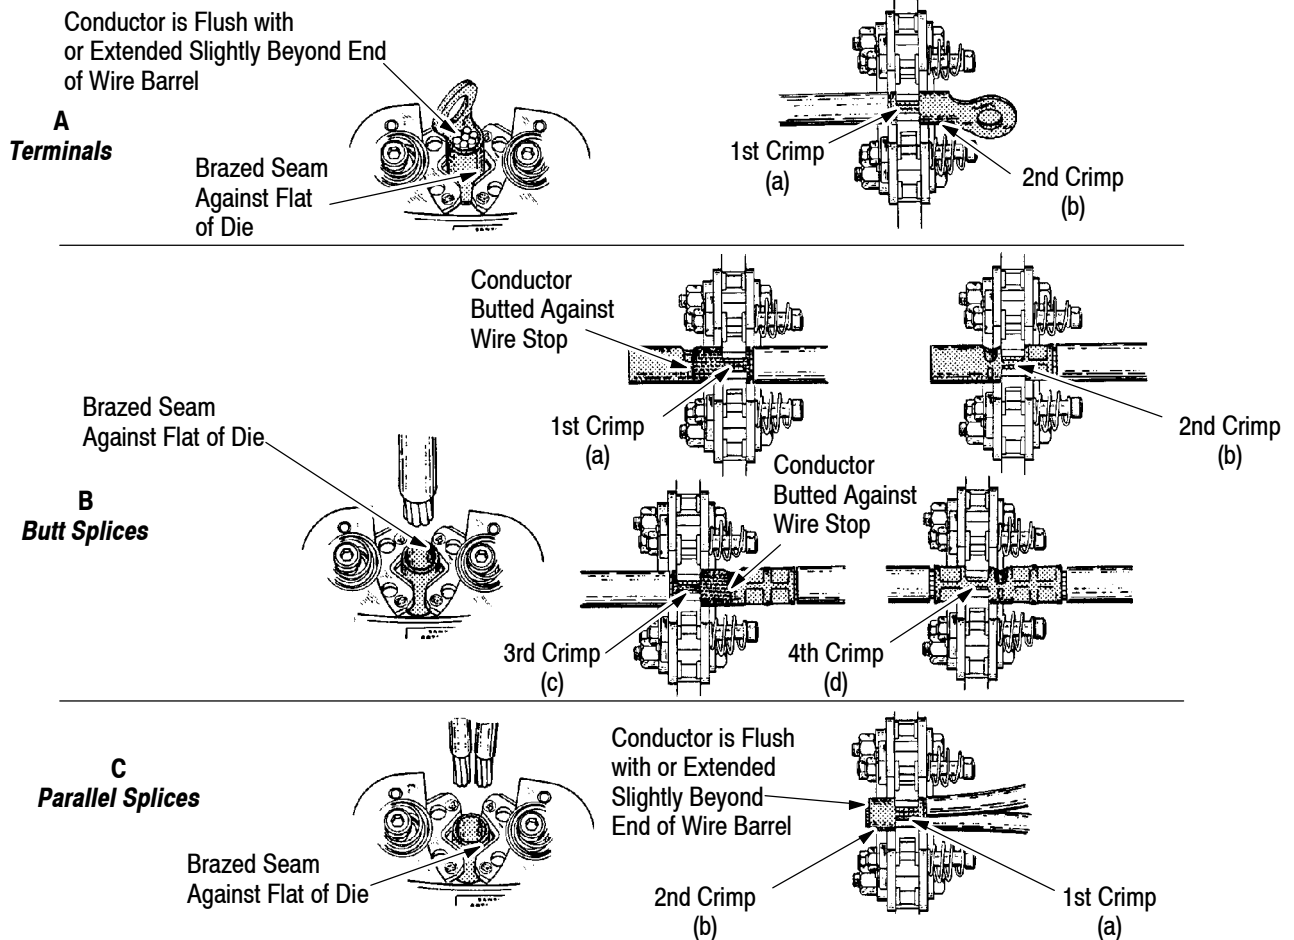

Figure 4
3.4. Performing a Dual Crimp on SOLISTRAND Terminals with Wire Size 2 and 1/0 (Figure 4)
For best results, position the brazed seam of the terminal against one of the "flats" of the dies, as shown in Figure 4. Make sure that the crimps do not overlap or go off either end of the wire barrel. Make sure that the wire size being used, the wire size stamped on the terminal, and the wire size embossed on the dies all correspond.
1. Position the end of the terminal or splice wire barrel in the dies as shown in Figure 4.
3.5. Performing a Dual Crimp on SOLISTRAND Butt Splices with Wire Size 2 and 1/0 (Figure 4)
5. Move the splice into position for the second crimp, as shown in Figure 4.
B. Third and Fourth Crimps (Figure 4)
3.6. Performing a Dual Crimp on SOLISTRAND Parallel Splices with Wire Size 2 and 1/0 (Figure 4)
For best results, position the brazed seam of the terminal against one of the “flats” of the dies, as shown in Figure 4. Make sure that the crimps do not overlap or go off either end of the wire barrel. Make sure that the wire size being used, the wire size stamped on the terminal, and the wire size embossed on the dies all correspond.